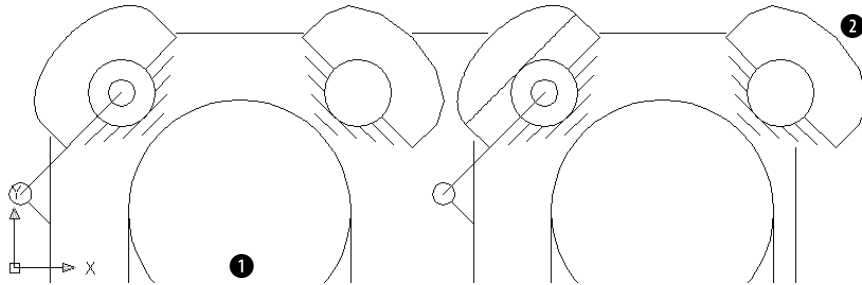

Figure 8-1: The air compressor is zoomed in so that you can see only part of the drawing.
1. Open ab08-a.dwg from the CD-ROM. This is an air compressor, as shown in Figure 8-1.
2.  Choose Pan Realtime from the Standard toolbar. Move the cursor to ① in Figure 8-1, then click and drag to ②. The air compressor moves up and to the right. (Note that by the time you get to ②, the display of the air compressor has moved — however, you should drag to where ② was on the screen.) Press Esc.